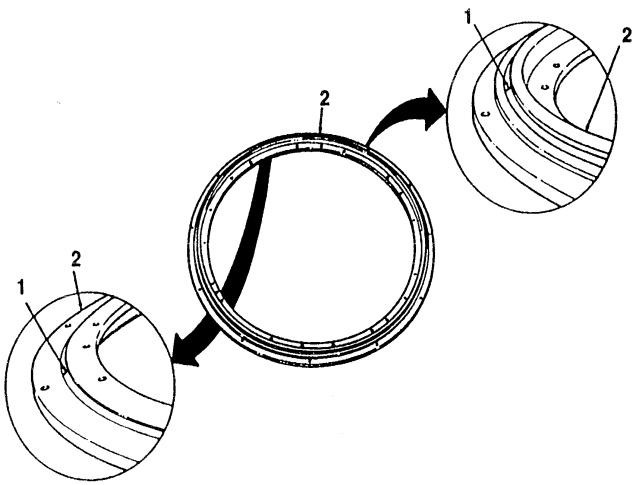

FIGURE 3-34
10. Apply NSN 8030-01-159-4844 RTV sealant onto ends of seal (1) on bearing assembly (2). (see figure 3-34)
12. Apply NSN 8030-01-159-4844 RTV sealant to ends of seal (1) on bearing assembly (2). (see figure 3-34)